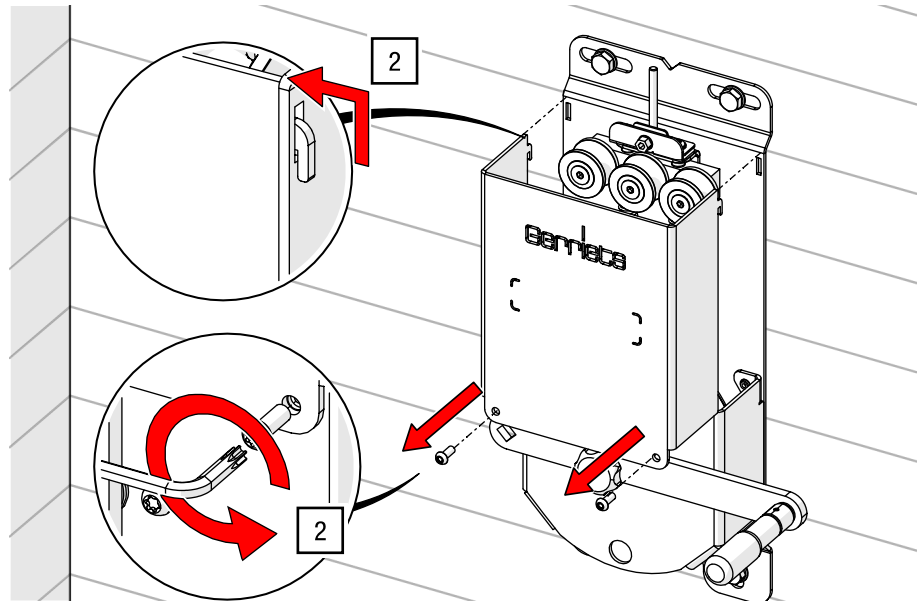

Fig. 115: Loosen the housing screws and open the housing
2. Loosen the housing screws on the top cover plate using a TORX®-key T30 and lift it out of its anchoring (see Fig. 115).
4. Close the housing in reverse order to step 2 (reverse to Fig. 115).